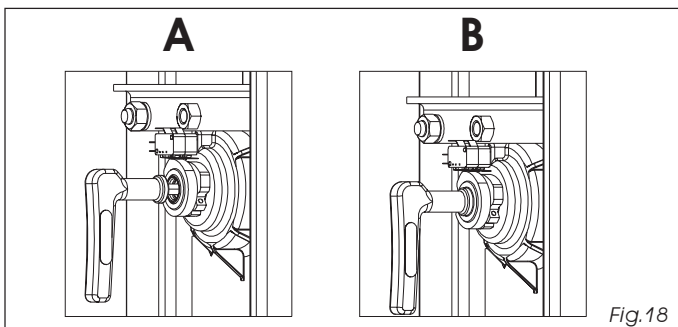

Fig.18
- fit the special key, located inside the upright, in the release hole (fig.18, ref.A) and turn it clockwise for a few turns until you reach the mechanical stop limit.
Attention: There is a round edge on the release key, which must rest on the shaft (fig. 18 ref.B). When this position is